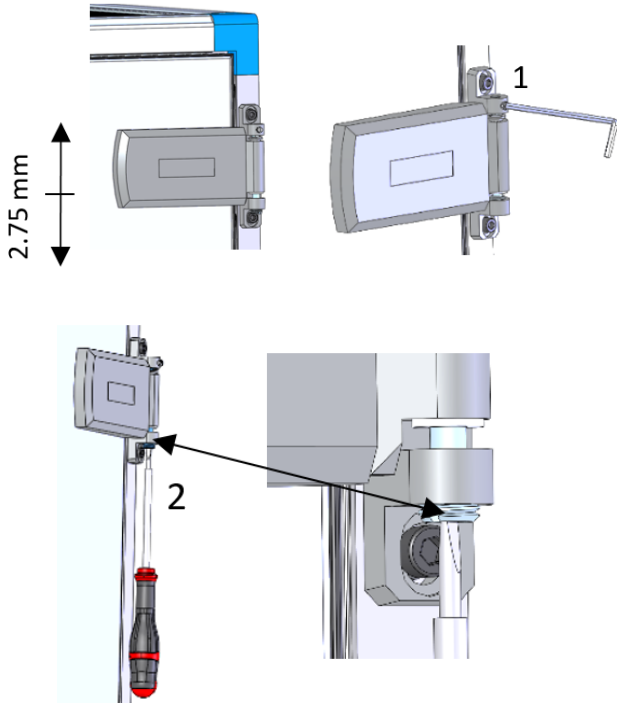

Figure 33
- For adjusting the door position in vertical direction, adjust the screw in the lower part of the hinge as in Figure 33.
- Loosen the screw (1)
- Adjust the height (2)
- Tighten the screw (1)